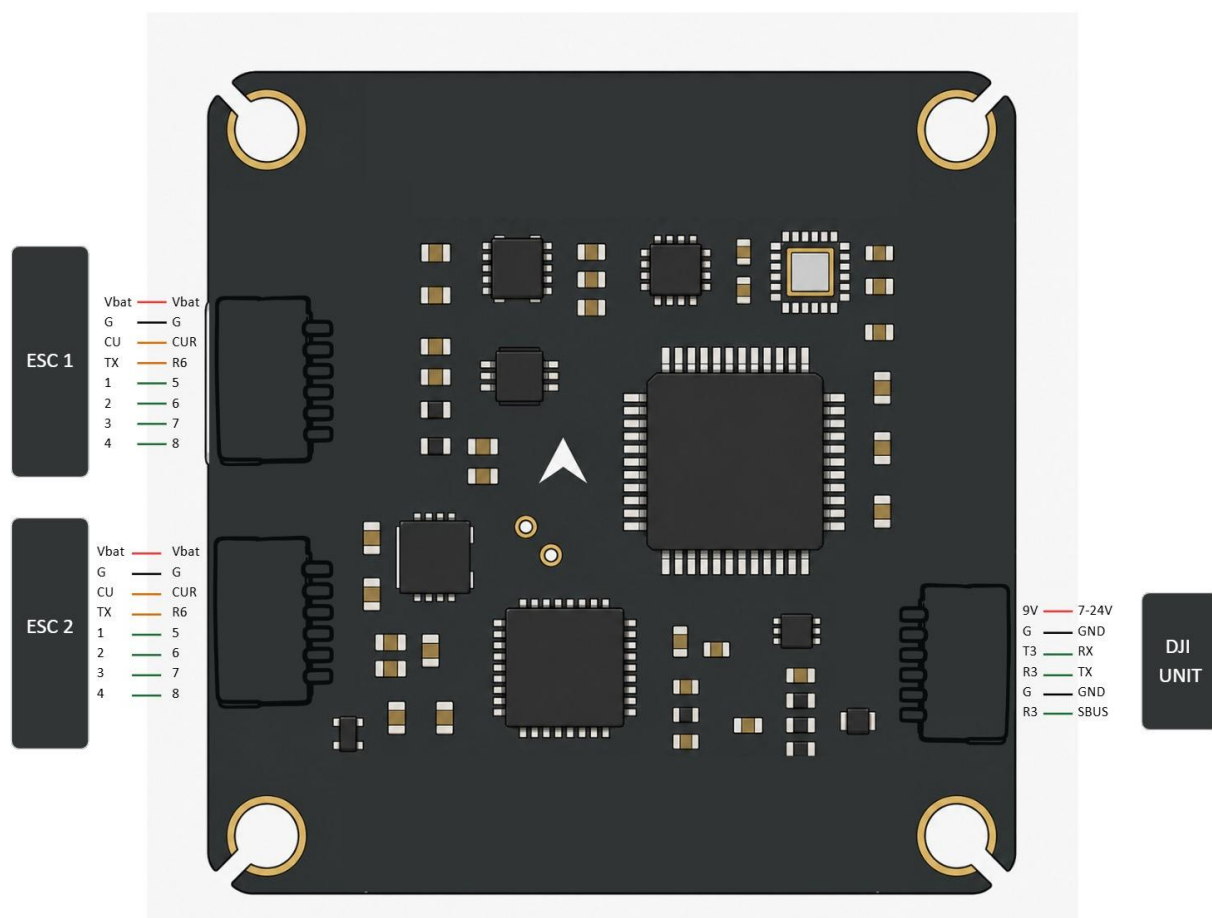

Fig.3. Wiring diagram (ESC and DJI Air Unit connectors)
- ESC link: Use the ESC 1 and ESC 2 connectors (8-pin, see Fig. 3) to connect up to two 4-in-1 ESCs. Each connector carries the battery voltage (Vbat), ground (G), current sensor signal (CU), telemetry (TX), and four motor signals (1-4).
- UART 6 (ESC telemetry): The ESC telemetry (TX) from the ESC connectors is received on R6 (see Fig. 3).
- DJI UNIT connector: Connect the DJI Air Unit to the 6-pin DJI UNIT connector (see Fig. 3): 9V to 7-24V, G to GND, T3 to RX, R3 to TX, G to GND, R3 to SBUS.